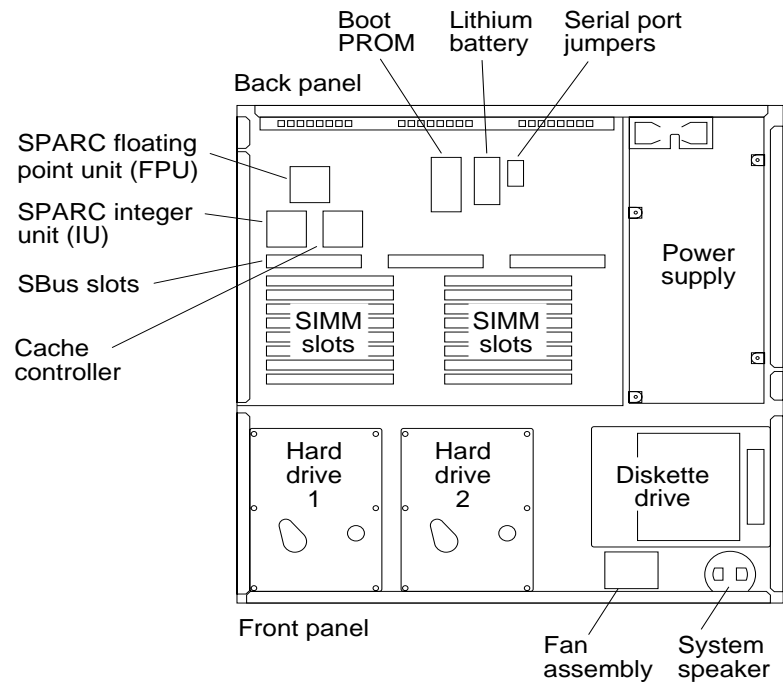

Figure 4-6 Location of SIMM Slots in System Unit
5. **Locate the SIMM slots on the main logic board. The SIMM components must be facing toward you (see Figures 4-6 and 4-7).**
5. Locate the SIMM slots on the main logic board (see Figures 4-6 and 4-7).